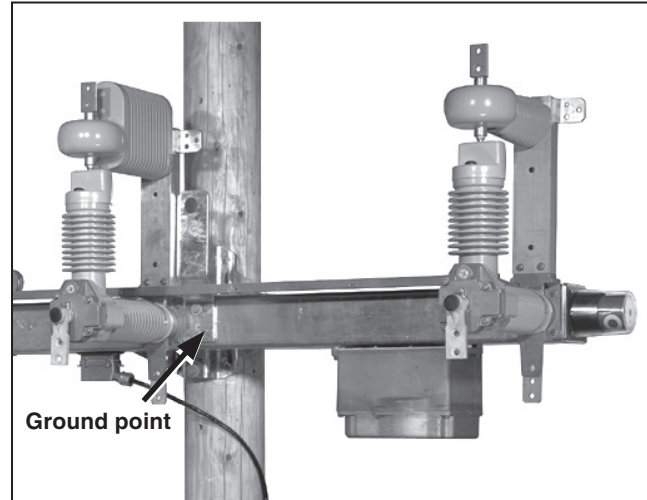

Figure 17. Grounding the switch (vertical mounting configuration shown).
STEP 14. Ground the switch by solidly connecting the end of a number 2 AWG copper wire (or two number 6 AWG copper wires or copper wires of equivalent cross-sectional area) to the switch mounting bracket. See Figure 17. Grounding lug is to be provided by others. Connect the other ends of the wires to a suitable earth ground at the base of the pole and bond them to the system neutral, if present. Proper precautions must be taken to ensure the local earth ground cannot be severed or removed.